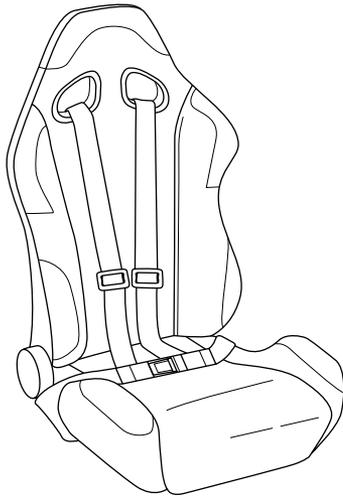

Figure 4-15:
- ✔ Four straps (as shown in Figure 4-14 and Figure 4-15)